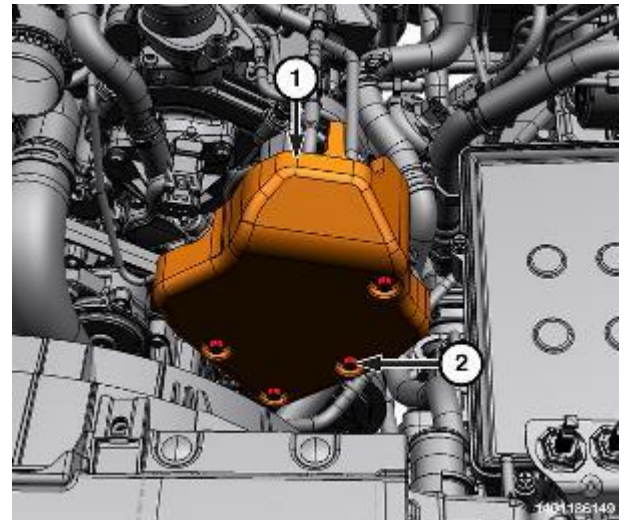

Figure 97 – Blocker Plate
11. Remove the fuel injection pump blocker plate bolts (2) and the fuel injection pump blocker plate (1) from the fuel injection pump (Figure 97).